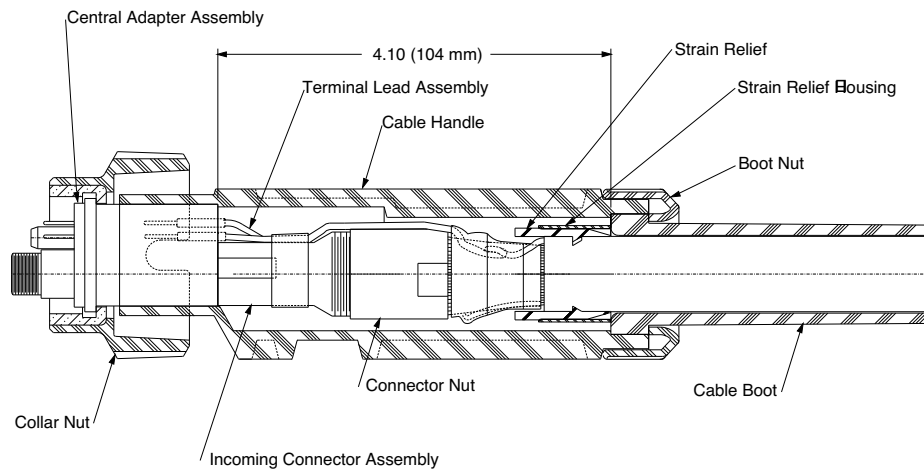

FIGURE 6
- k) Position the strain relief to the dimension shown in Figure 6 and secure with the strain relief housing. On older cables install the cable clamp on the cable jacket within 1/8" (3.2 mm) from the end of the jacket and tighten.